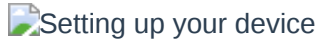

Figure 83: Setting up your device
3. Select your target port where your **RAK3172** is connected. Once recognized, click **CONNECT**, as shown in **Figure 83**.